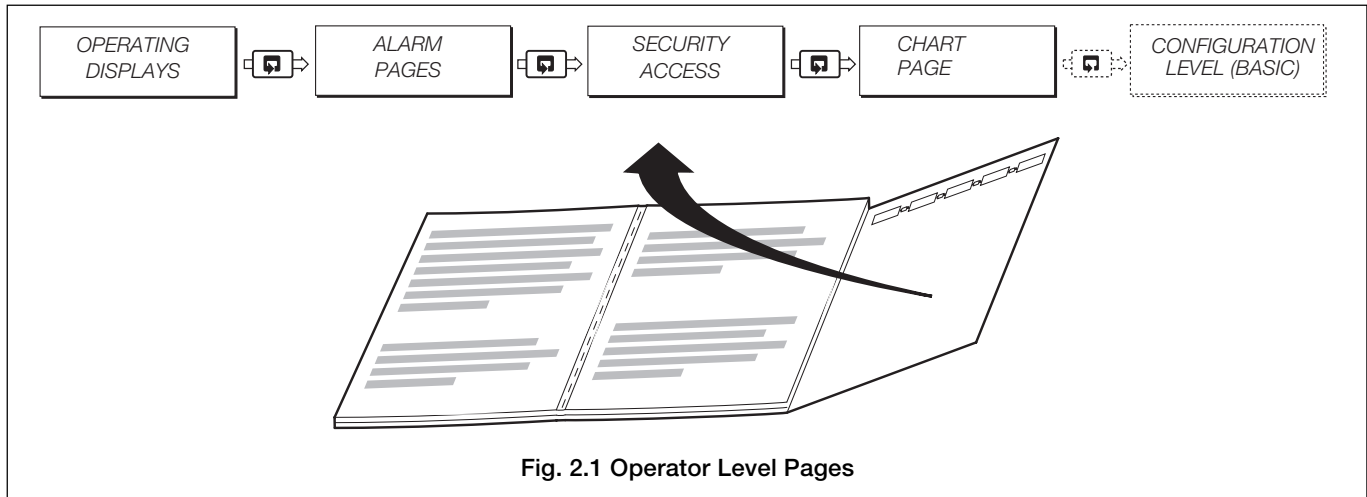

Fig. 2.1 Operator Level Pages
2.1.1 Operator Level Pages – Fig. 2.1